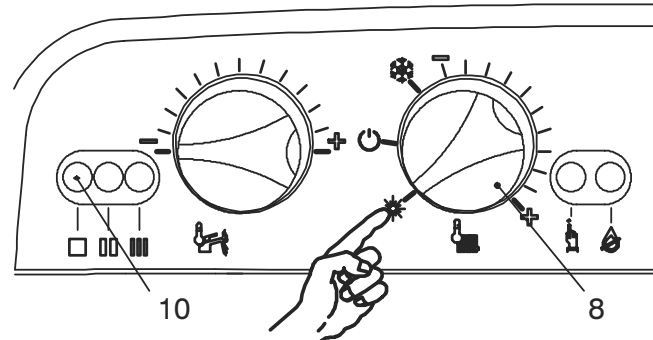

Fig. 2.5
- 4 If d.h.w. supply only is required, position the function selector 8 as in Fig. 2.5. The appliance operation light 10 will flash every 2 seconds (operating boiler).